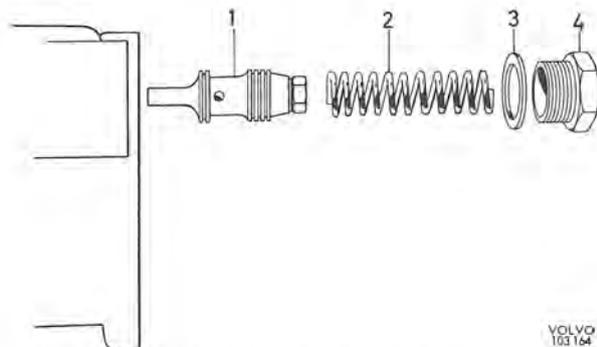

Fig. 6-64. Removing the control valve
- b) Remove the pump control valve, see Fig. 6-64. Observe the utmost cleanliness. Wash and